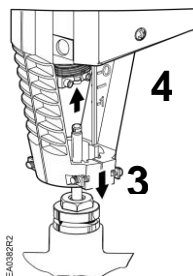

Figure 5.
**NOTE:** Ensure the yoke nuts are loose enough to allow the actuator to slip over the bonnet. See Figure 5.